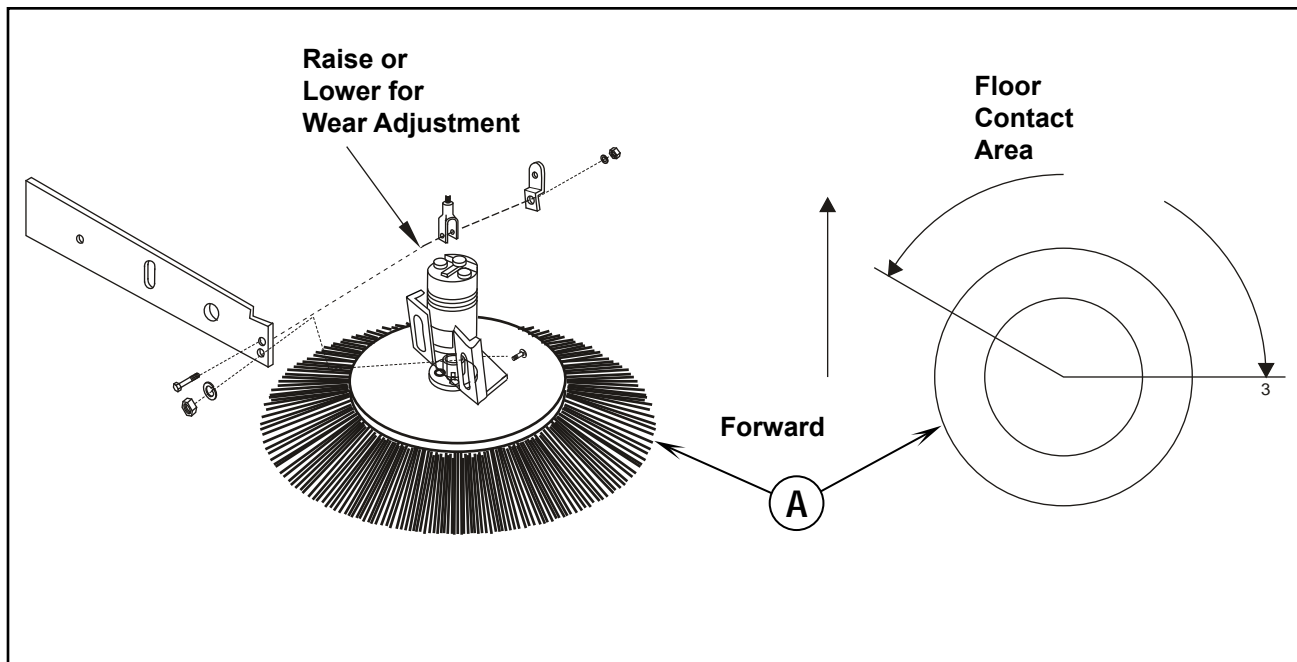

FIGURE 25
As the Side Broom (A) wears, loosen the two wear adjusting bolts and slide the broom-motor assembly into a position so that the broom contacts the floor at a 3 degree angle when lowered as shown in Figure 25.